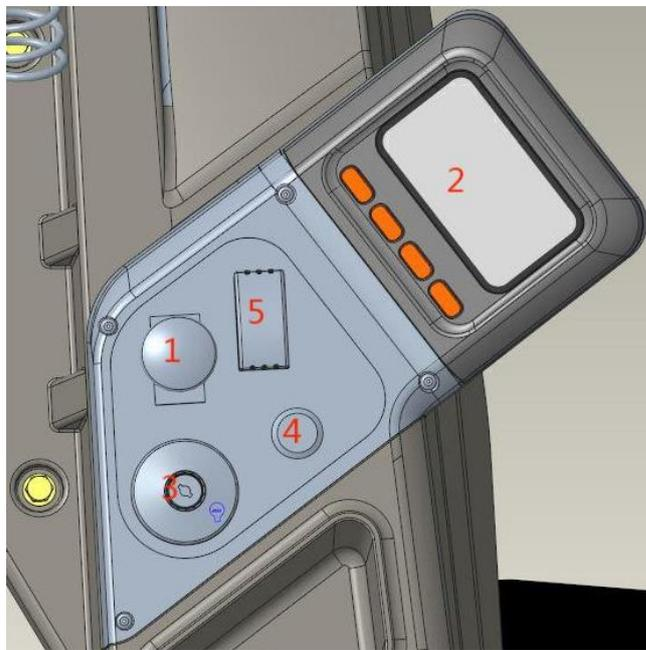

Fig.1
1. Install the switches and display screen onto the panel correspondingly as shown in Fig.1.